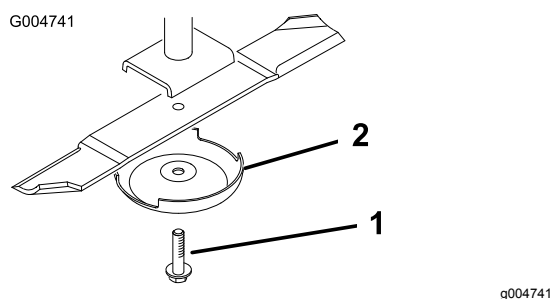

Figure 117
3. Remove the blade bolt, anti-scalp cup, and blade from the spindle shaft (Figure 117).